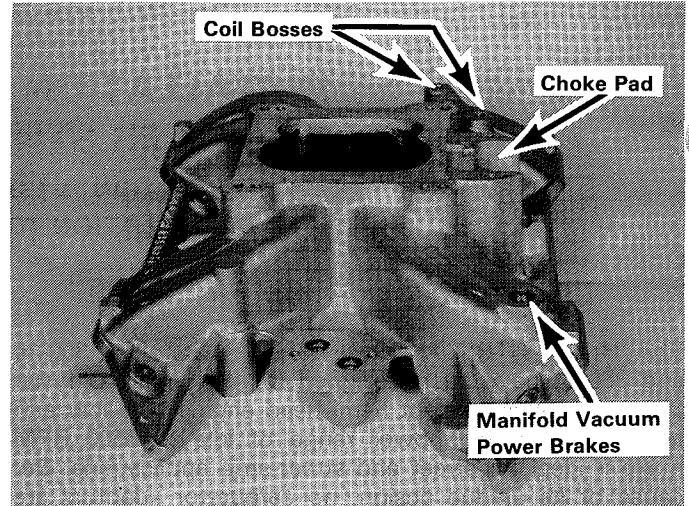

Fig. 3
to seal the EGR passages. These should be carefully pressed into each of the two EGR holes so that the top edge of the plug is flush with the EGR pad. See Figure 3.
26. If vehicle is equipped with power brakes, install power brake line in back of carburetor or in tapped hole on Runner No. 8. See Figure 3).